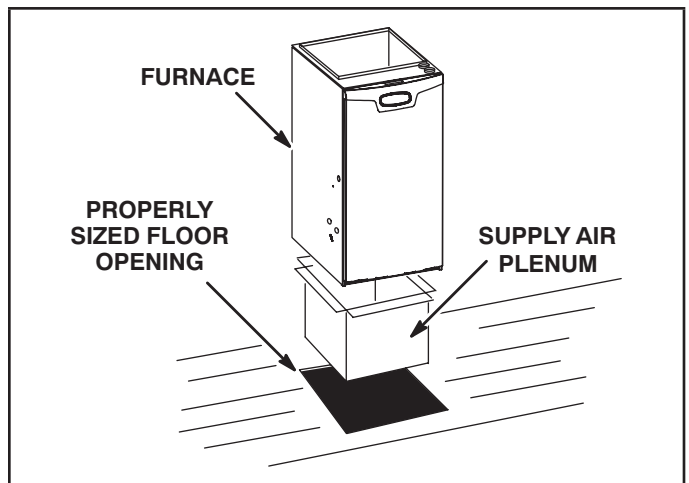

FIGURE 14
**Installation on Non-Combustible Flooring FIGURE 14**